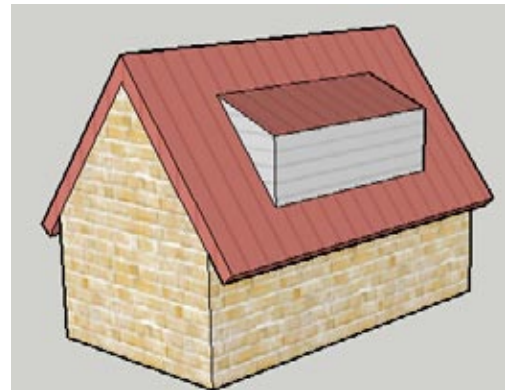

Figure 5-29
7. Add two more lines to complete the two sides (Figure 5-29).